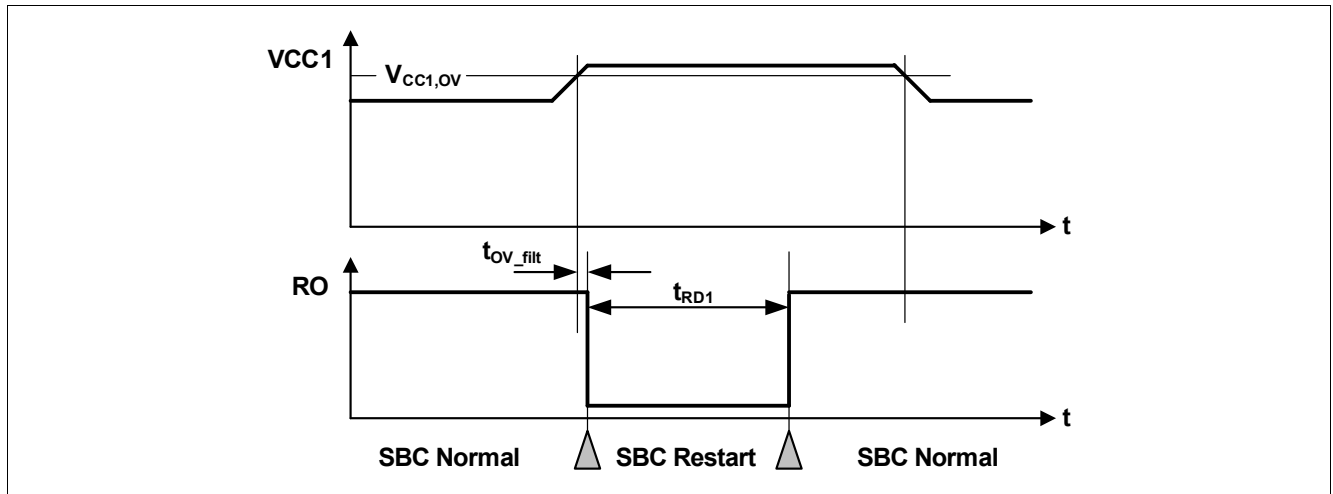

Figure 48 VCC1 Over Voltage Timing Diagram
- If the bit **VCC1_OV_RST** is set and **CFG_P** = '1', then SBC Restart Mode is entered. The FOx outputs are activated. After the reset delay time (t_{RD1}), the SBC Restart Mode is left and SBC Normal Mode is resumed even if the VCC1 over voltage event is still present (see also Figure 48). The **VCC1_OV_RST** bit is cleared automatically;